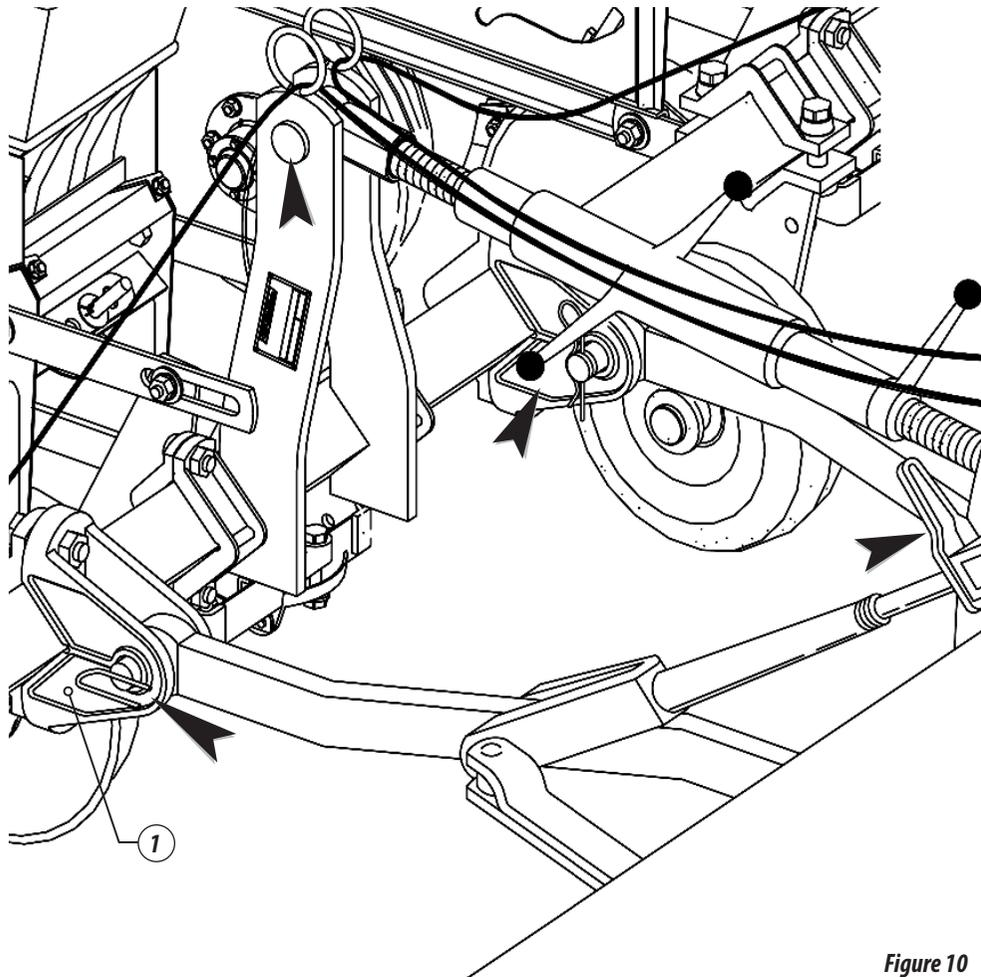

Figure 10
- 02 - Line the superior hitch arm of the machine with the 3rd point of the tractor, checking if all the distances "D" of the inferior arms of the hydraulic are the same in relation to the tractor tyres, according to figures 10 and 11. To line up use the stabilizers. The inferior arms must be leveled.